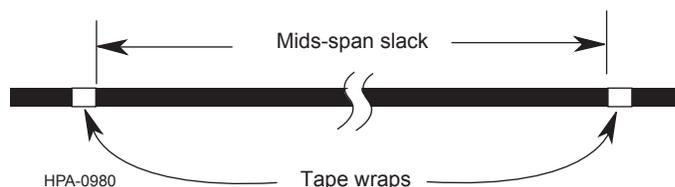

Figure 17
Step 2: Determine the amount of slack needed. Place a wrap of tape at each end of the cable sheath that is to be removed (Figure 17).